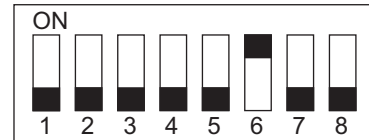

Fig.3-109
(1) Remove the right inner cover and the rear cover.
(2) Adjust the front jogging plate to the home position.
- Set SW1 on the finisher controller PC board as shown in  P.3-84 "Fig.3-109".